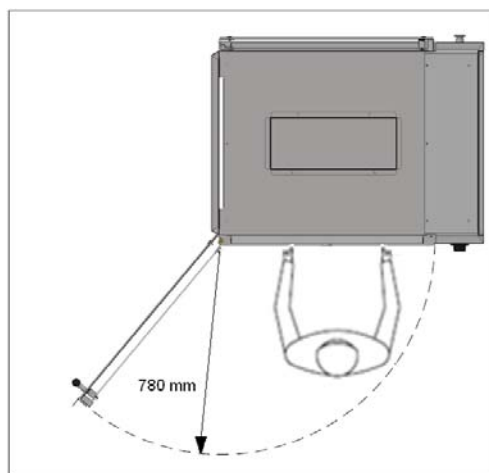

Figure 2.1
- The user must have sufficient freedom of movement to properly operate the unit (see figure 2.1).